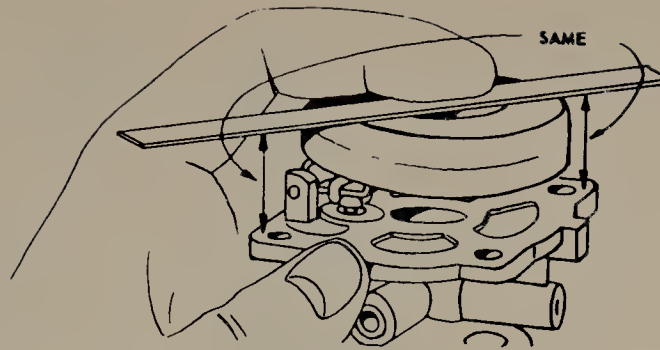

FIGURE 15.10 Checking the float level on one model carburetor. (Briggs and Stratton Corporation.)
15.12 Float Adjustment. The float should be adjusted so that the proper level of gasoline will be maintained in the float bowl. Normally, this adjustment will not change. However, if the carburetor requires repair, then this adjustment should be checked. The procedure of checking the float level on one model of carburetor is shown in Fig. 15.10. The float should be parallel to the body mounting surface with the body gasket in place and the float valve and float installed. Bend the tang on the float, if necessary, to bring the float to parallel.